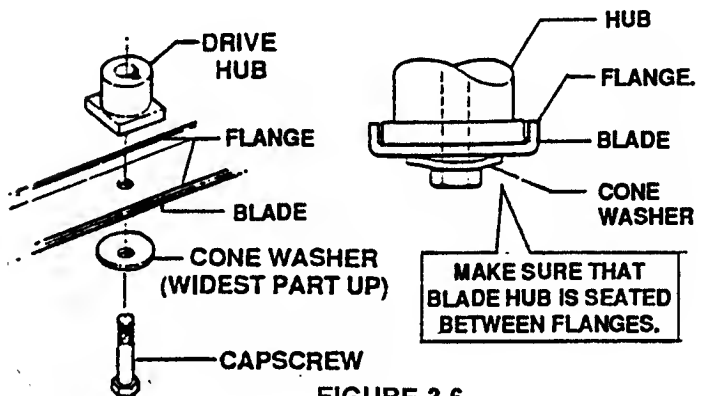

FIGURE 3.6
3. Remove blade. See Figure 3.6.
6. Reinstall blade. Refer to Figure 3.6. Check torque value of blade retaining cap screw. Recommended torque should be 25 to 35 ft. lbs.